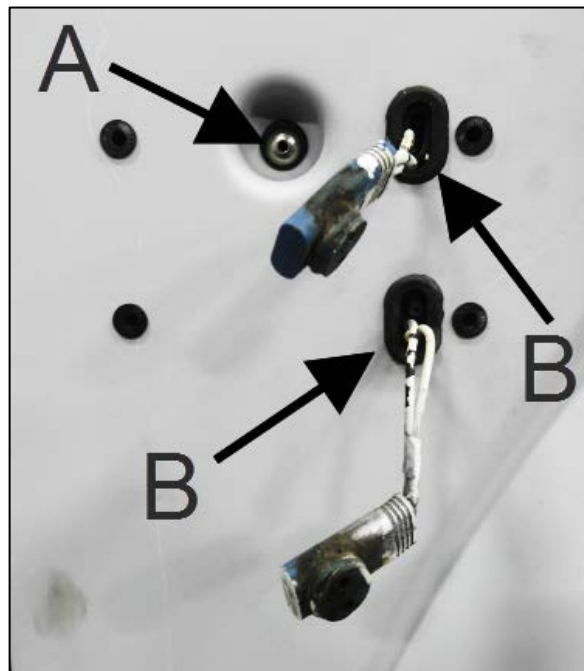

FIGURE 21
34. Install rivet PN 504793 (item A, Figure 21).
35. Split grommets PN 478900 (2) with scissors and install it on the fender as shown in Figure 21 (items B).